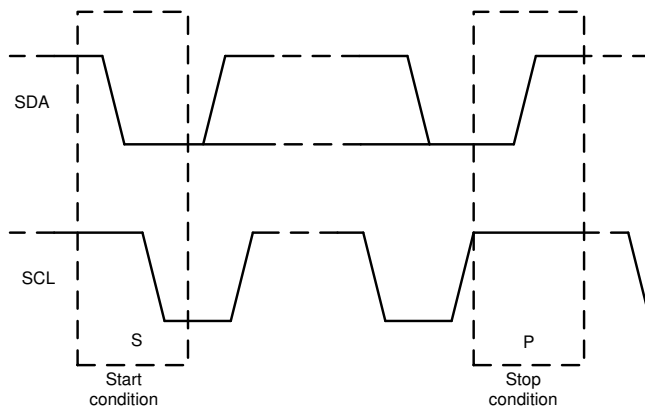

图 51. Start and Stop Conditions
1. The master initiates data transfer by generating a start condition. The start condition is when a high-to-low transition occurs on the SDA line while SCL is high, as shown in 图 51. All I²C-compatible devices recognize a start condition.
4. To signal the end of the data transfer, the master generates a stop condition by pulling the SDA line from low-to-high while the SCL line is high (see 图 51). This action releases the bus and stops the communication link with the addressed slave. All I²C-compatible devices recognize the stop condition. Upon receipt of a stop condition, the bus is released, and all slave devices then wait for a start condition followed by a matching address.